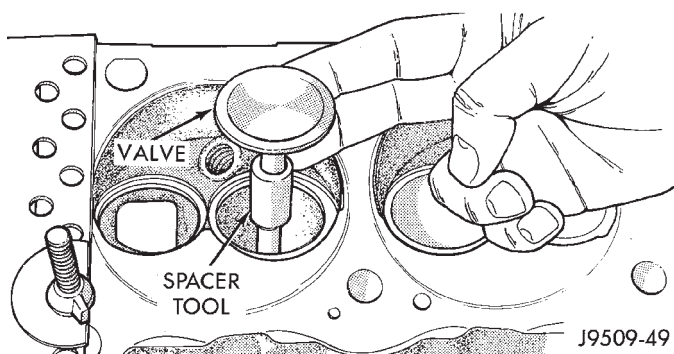

Fig. 51 Positioning Valve with Tool C-3973
(1) Install Valve Guide Sleeve Tool C-3973 over valve stem and install valve (Fig. 51). The special sleeve places the valve at the correct height for checking with a dial indicator.